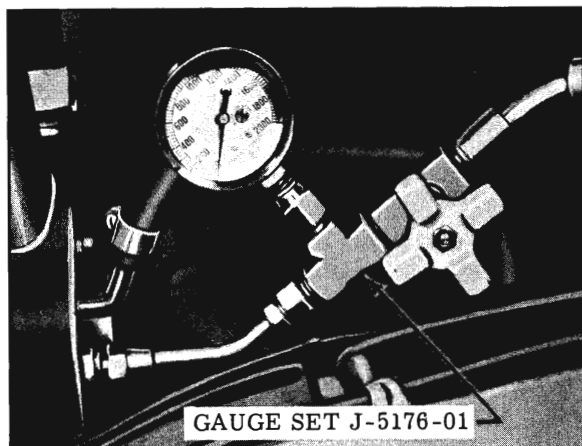

Fig. 4-303 Checking Pump Pressure
- a. Disconnect the pressure line at pump, then install gauge set J-5176-01. (Fig. 4-303)